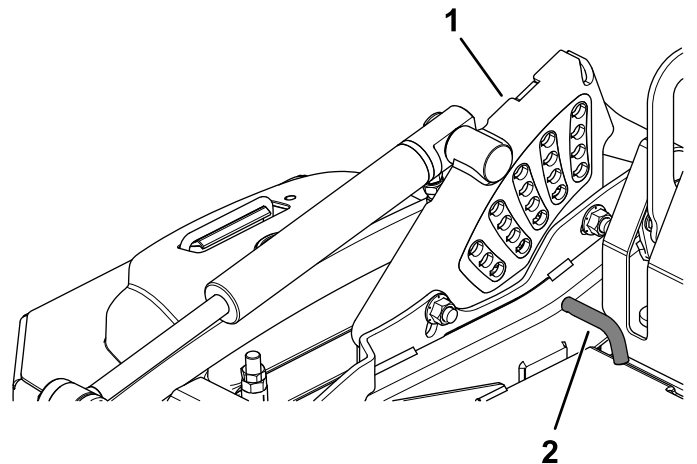

Figure 24
2. Rotate the height-of-cut pin until the roll pin in it lines up with the slots in the holes in the height-of-cut bracket and remove it (Figure 24).
3. Insert the height-of-cut pin into the hole corresponding to the desired cutting height (Figure 24).
Refer to the decal on the side of the deck-lift plate for the heights of cut (Figure 24).